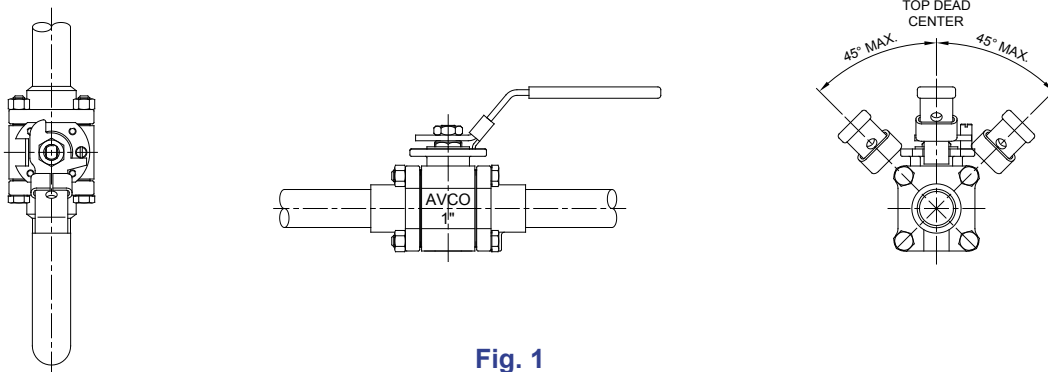

Fig. 1
- 6.6 AVCO advises, that where an actuator is used, the valve be installed as shown in fig. 1 and as described in paragraph 1.2 for optimal use and life span. It is imperative that any bracket/coupler combination allows adequate clearance to ensure that the coupler does not exert any compressive force directly on to the stem or stem nut, as this could lead to premature stem leakage and possible damage. When assembled it should be possible for the coupler to freely move up and down by a small amount.